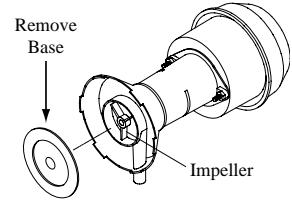

Fig. 13
- **Clean pump.** Cleaning the pump is necessary once a year at start-up. For your safety, turn unit off and unplug motor and pump. Remove the pump from the mount slot. Remove the base of the pump (Fig. 13). Clean the pump and turn the impeller to ensure free operation. Remove the pump spout and check for any blockage.